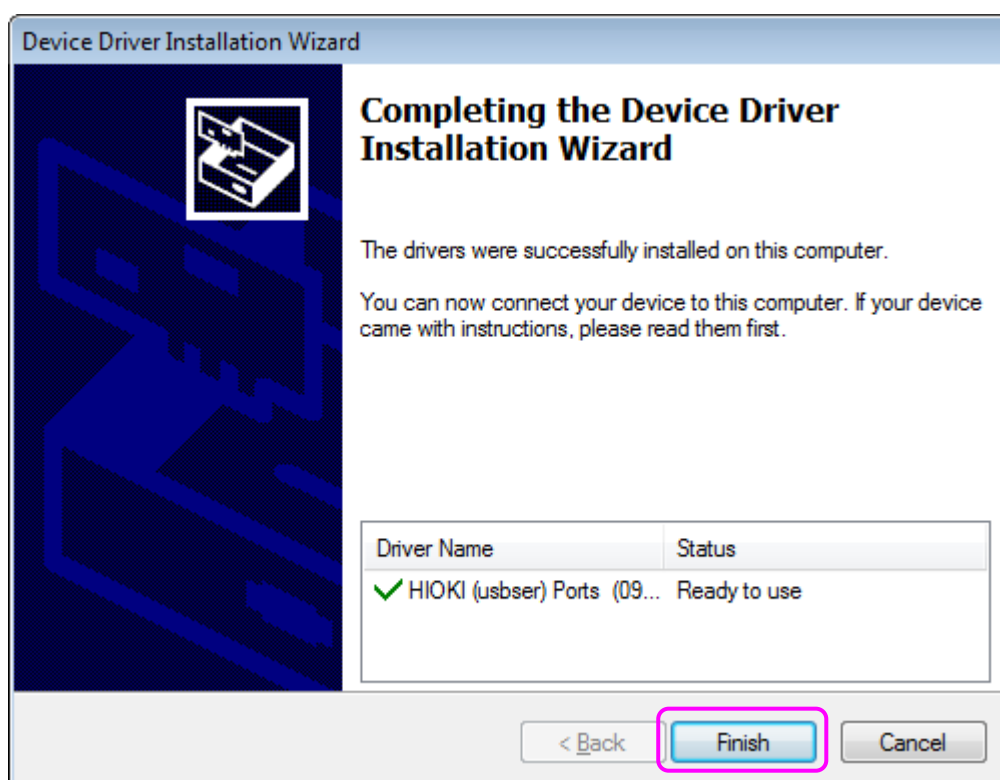

Fig.2-3
Step2: If the driver is installed successfully, Click [Finish]. (Fig.2-3)